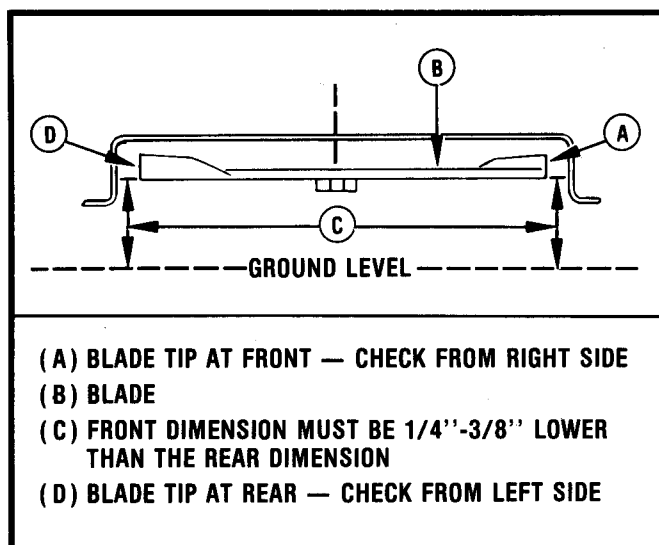

FIGURE 12-6
2. In all cases, for proper grass cutting, the mower blade pitch must be maintained at a difference of 1/4"-3/8" between the blade tip at front and blade tip at rear. The front dimension must be 1/4"-3/8" lower than the rear. You may adjust this with the new lift link assemblies and the adjustment strap as described in the following "ADJUSTMENT PROCEDURE" section. In order to check your blade pitch measure the distances from the ground level to the cutting tips of the mower blade with the tips at the center front and center rear of the mower. Rotate the blade using a glove or padding with the Mower Clutch disengaged, "OUT", and the Mower Height Lever in the highest position. Refer to Figure 12-6. Be sure to check the front dimension from the right side and the rear dimension from the left side (as viewed from operator's position). Engage Mower Clutch before checking pitch. Be sure that tension of mower belt, when engaged, does not affect pitch-checking accuracy.